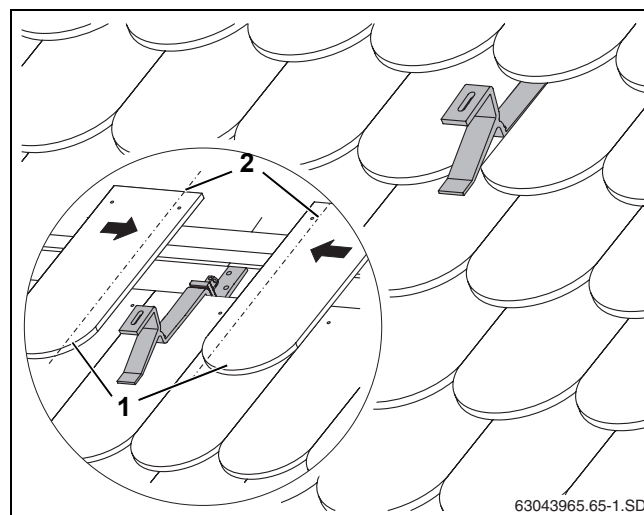

Fig. 21 Roof hook with covered roof
- Cut adjacent crown tiles (Fig. 21, [1]) (dotted line, Fig. 21, [2]).